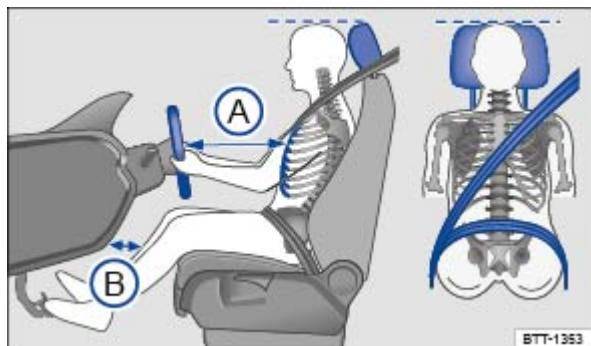

Fig. 19 Proper safety belt positioning and head restraint adjustment. The driver should never sit closer than 10 inches (25 cm) from the steering wheel.
- Adjust head restraint so that the upper edge of the head restraint is at least at eye level or higher. Position the back of your head as close as possible to the head restraint ⇒ Fig. 19.
- Adjust the steering wheel so that there are at least 10 inches (25 cm) between the steering wheel and your breast bone ⇒ Fig. 19 \(A\) ⇒ Steering wheel. When adjusting the proper distance to the steering wheel, grasp the top of the steering wheel with your elbows slightly bent.
- Adjust the driver's seat so that you can easily push the pedals all the way to the floor while keeping your knee(s) slightly bent. The distance to the instrument panel in the knee area must be at least 4 inches (10 cm) ⇒ Fig. 19 \(B\)